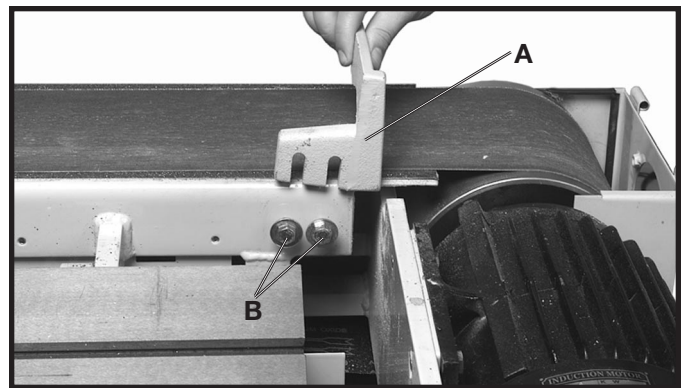

Fig. 12
2. Place back stop (A) Fig. 12, on screws (B) between table and washers and tighten securely.